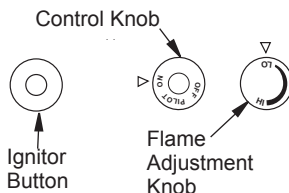

Figure 39 - Control Knob and Ignitor Button Location
3. Press in and turn control knob clockwise  to the OFF position (see Figure 39).
5. Wait five (5) minutes to clear out any gas. Then smell for gas, including near the floor. If you smell gas, STOP! Follow B in the safety information, page 26. If you don't smell gas, go to the next step.
6. Press in and turn control knob counterclockwise  to the PILOT position. Press in control knob for five (5) seconds (see Figure 39, page 24).